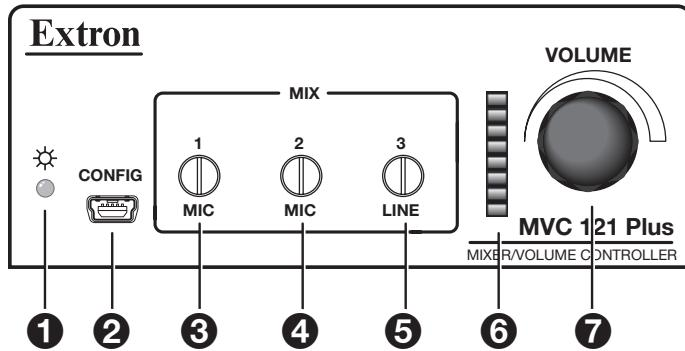

Figure 11. MVC 121 Plus Front Panel
A recessed button on the rear panel initiates two reset modes. The green front panel LED (**figure 11, ②** on the previous page) blinks to indicate the reset modes as described in the following section. See the previous front and rear panel diagrams.